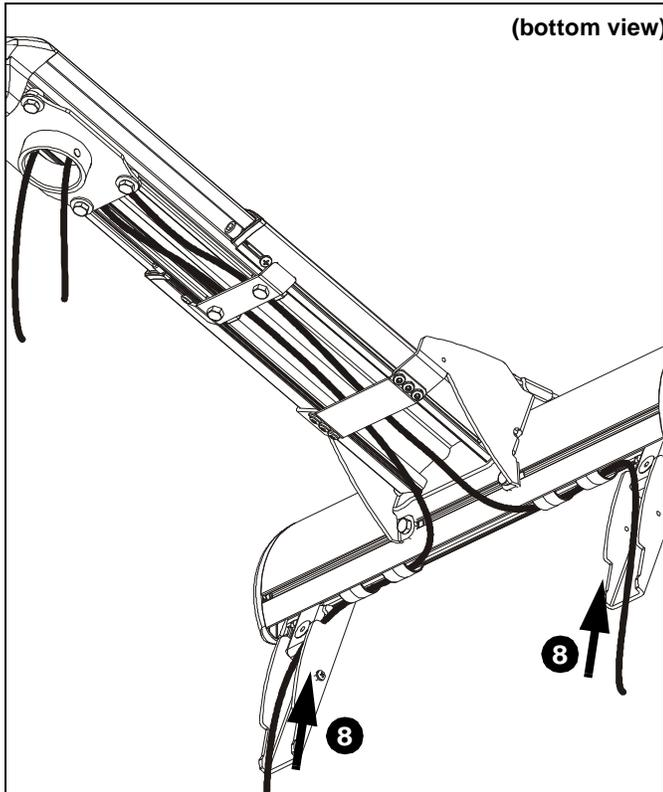

Figure 23
- Route cables through cover mount, WMA2S arm and into column. (See Figure 23)